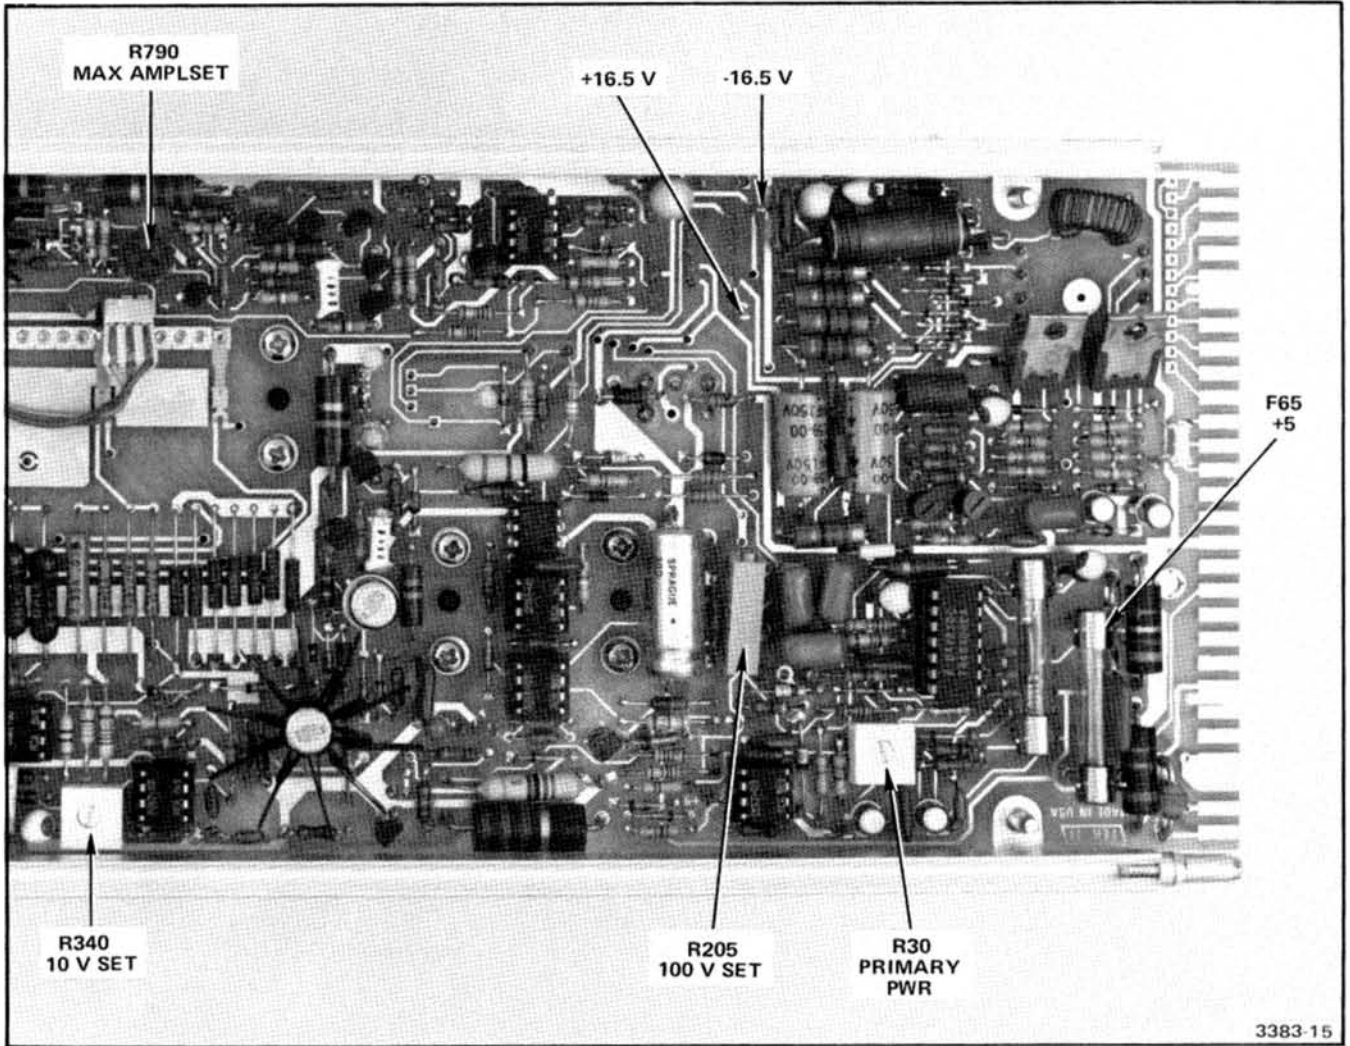

Fig. 4-5. Adjustment locations for the A1 Main circuit board.
- a. Connect the voltmeter high input lead to the +16.5 V test point. Refer to Fig. 4-5.
- Connect the voltmeter high input lead to the top end of F65. Refer to Fig. 4-5.